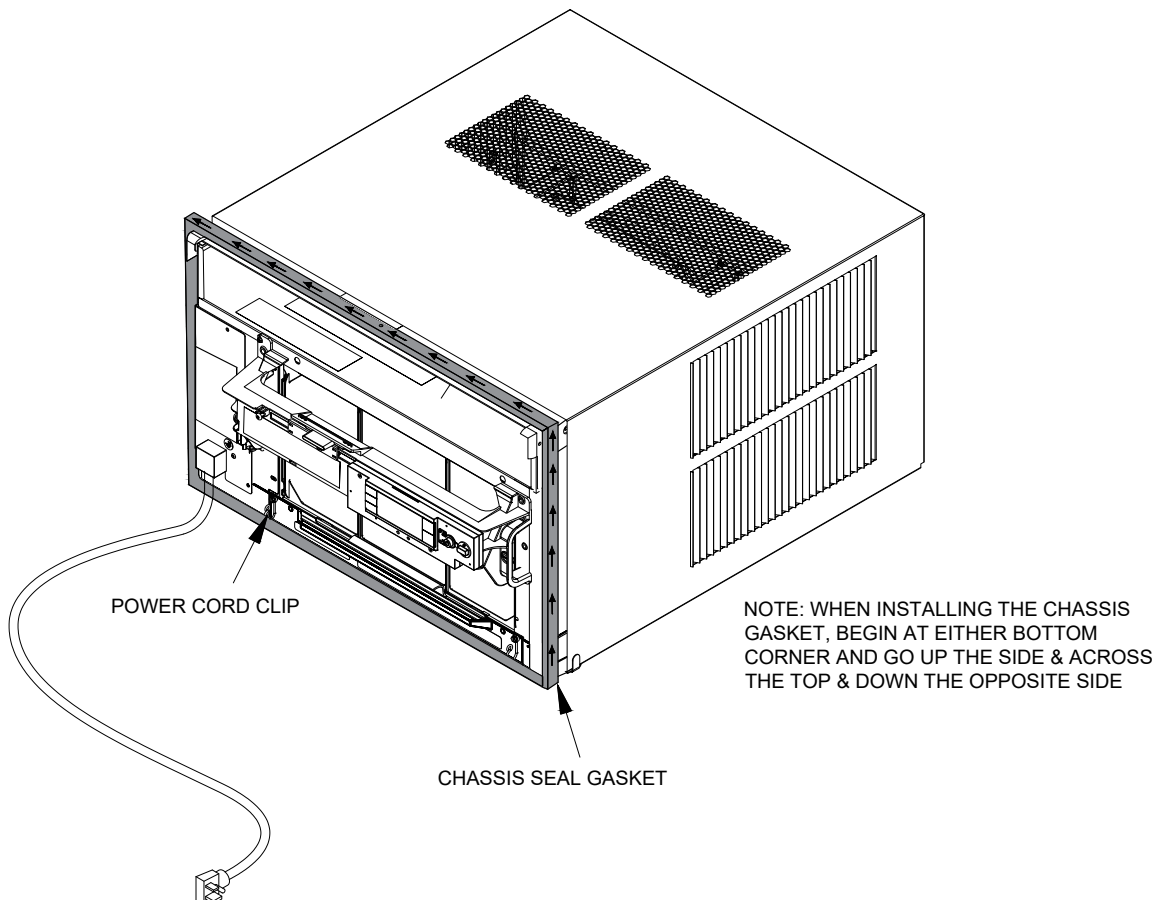

Figure 425 (Chassis Installation)
3. Insert the chassis seal gasket (See Figure 425) one inch deep between the chassis and the cabinet. A paint stir stick or ruler might be helpful here. Begin inserting the gasket at either bottom corner and go up the side, across the top, and down the opposite side. Then push the chassis all the way into the cabinet.